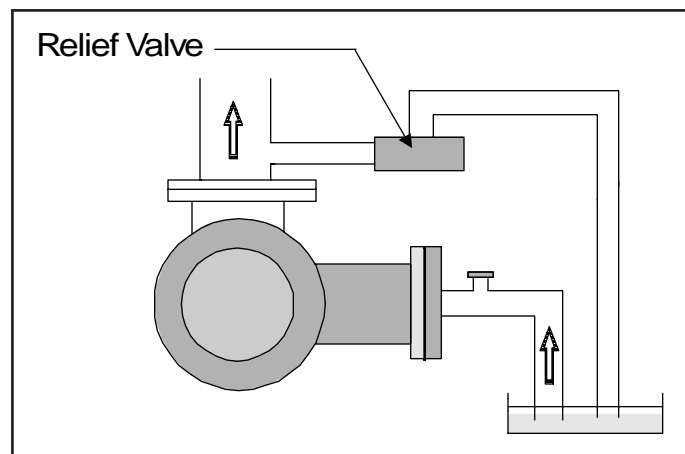
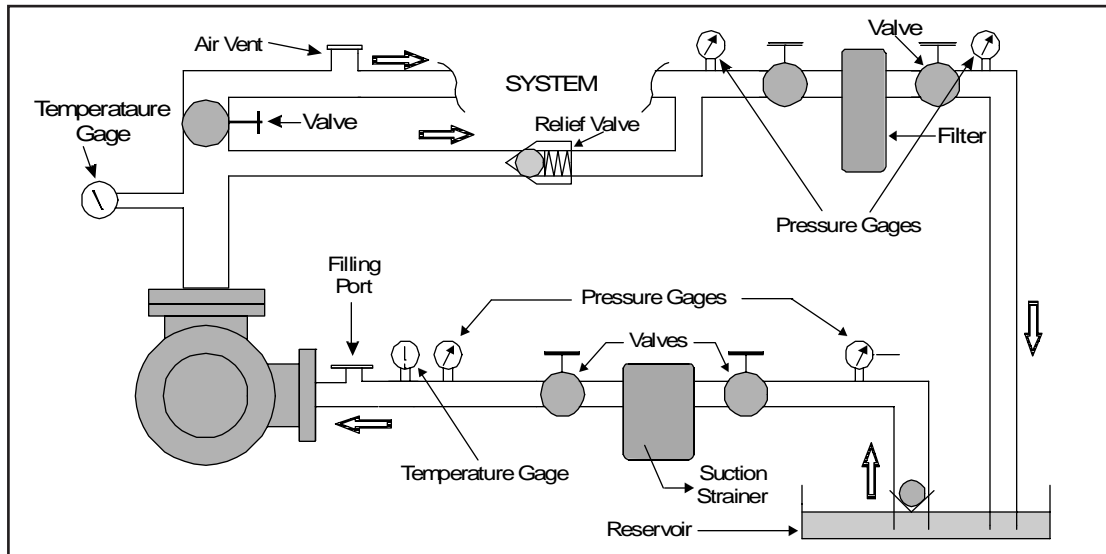

Figure 5 – Proper Relief Valve Return Line Arrangement
Figure 8 – Idealized Installation
**DO NOT set relief valve higher than maximum pressure rating of pump, including pressure accumulation at 100% bypass.** Relief valve return lines should NOT be piped into pump inlet lines because they can produce a loop that will overheat pump. See Figure 5.
Pressure and temperature gages are recommended for monitoring the pump's operating conditions. These gages should be easily readable and placed as close as possible to pump's inlet and discharge flanges. See Figure 8.
Figure 8 is a compilation of Figures 5, 6 and 7 showing good-practice installation schemes for pumps located above the liquid reservoir in systems that recirculate the pumped liquid.